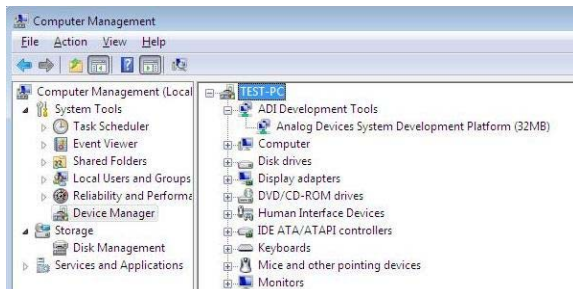

Figure 15. Device Manager
4. If the board does not appear to be functioning, ensure that the ADC evaluation board is connected to the **SDP-H1** board and that the board is being recognized in the Device Manager, as shown in Figure 15.